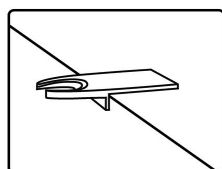

Fig.2A
- Press the holder onto the surface (Fig. 2A).